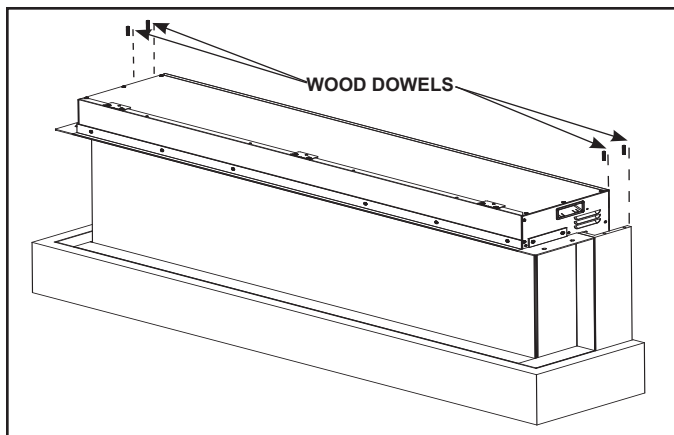

Figure 20
9. Insert the two (2) wooden dowels on each side into the open holes in the top of the mantel side panels. See Figure 20.